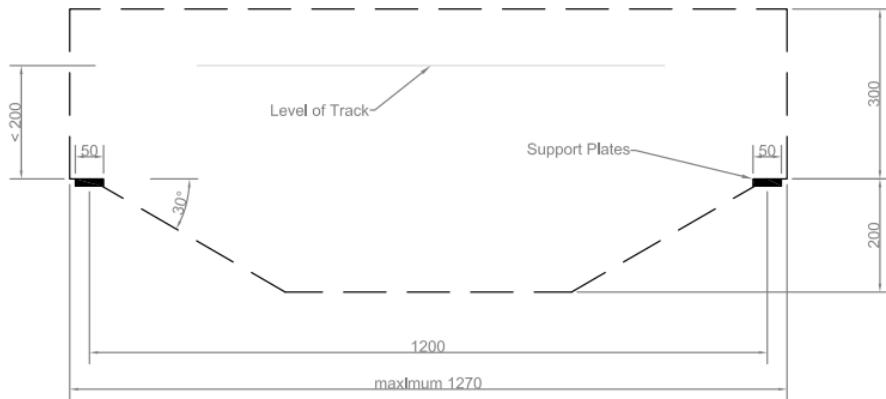

Figure 2. Dimensional constraints of the bridge shown in an elevation view.
Figure 2 illustrates the distance to be spanned by your bridge and indicates the maximum permitted dimensions of your bridge.
3. In addition to the dimensional constraints specified in Figure 2,